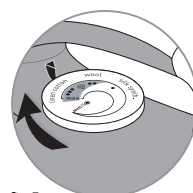

fig.5
- Adjust the temperature (see table below) by turning the temperature control dial to the temperature select position (fig. 5).